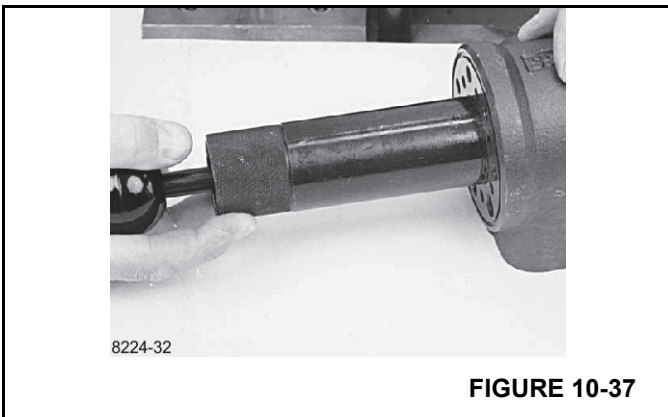

FIGURE 10-37
- 11. Draw the inner and outer parts of the assembly tool out of the steering unit bore, leaving the guide from the inner part in the bore (Figure 10-37).